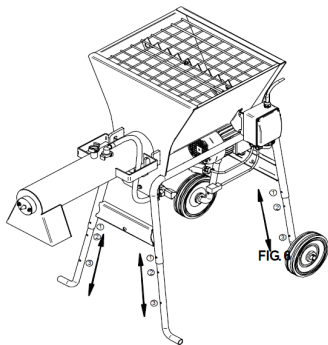

FIG. 6
11. LOADING HEIGHTS (SEE FIG 6):